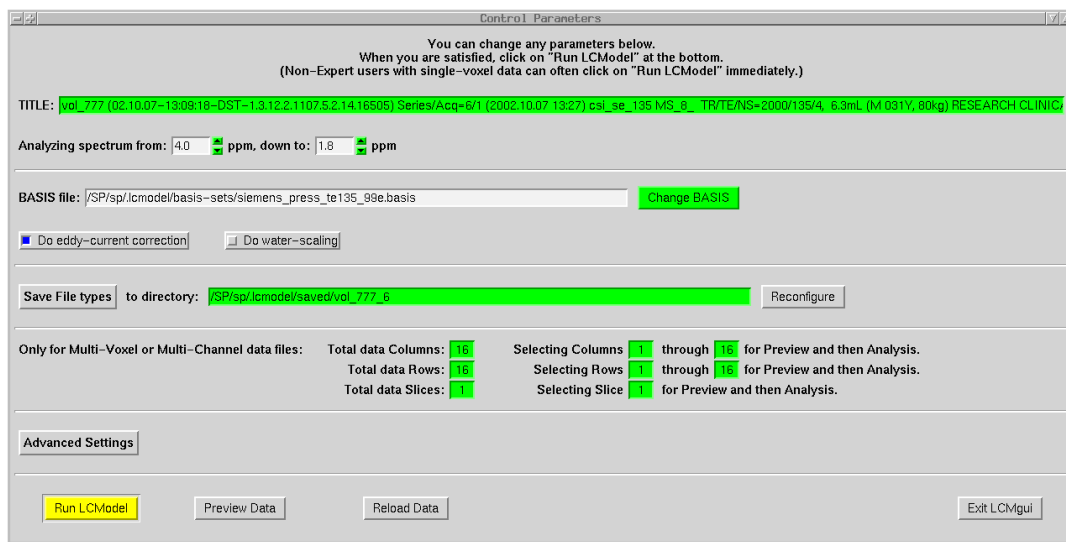

Figure 6.4: The Control Parameters Window
- Click on “Run LCMModel” (Fig 6.4 in Sec 6.4).
After you click the “OK” button in the File Selector, the second of the two most important windows, the “Control Parameters” window (Fig 6.4), appears. LCMgui remembers most of the settings from the previous session. Thus, Normal Users often can simply click the yellow “Run LCModel” button at the bottom to start the LCModel analysis. (Yellow is generally used to show you the usual path to take.)
In the second row in Fig 6.4, the entries next to "**Analyzing spectrum from:**" define the Analysis Window, the ppm-range over which the spectrum will be analyzed (Sec 3.4). You can change this range by clicking on the green up or down arrow next to the value. (Green usually indicates fields that you can click on or edit to make changes.)
In the third row in Fig 6.4, the entry next to **BASIS file:** shows the pathname of the .BASIS file containing the model spectra that will be used to analyze your data. If the .BASIS files are installed as specified in Sec 7.2.4, then LCMgui should automatically select the proper one, if it exists. Also LCMModel normally produces diagnostics if the .BASIS file does not match your data.
Users with Toshiba, Marconi/Picker data or GE Probe P-files can skip Sec 6.3.3 since eddy-current correction (ECC) is done automatically. Other users only have to set this as default the first time for future analyses. In the fourth row in Fig 6.4, a mouse-click switches the button for ECC between active (blue) and inactive (no ECC). (Blue usually indicates a button that is switched on.)
TITLE: This field at the top of Fig 6.4 will also appear at the top of the One-Page Output. You can edit this field, e.g., to insert comments on location or pathology.
There are several other useful files that can be output and archived by LCModel. Clicking on “Save File types” in Fig 6.4 produces a menu where you can select which types of output files will be archived. In addition to the .PS file (with the One-Page Output), the .TABLE file (with tables summarizing the results) should be selected.